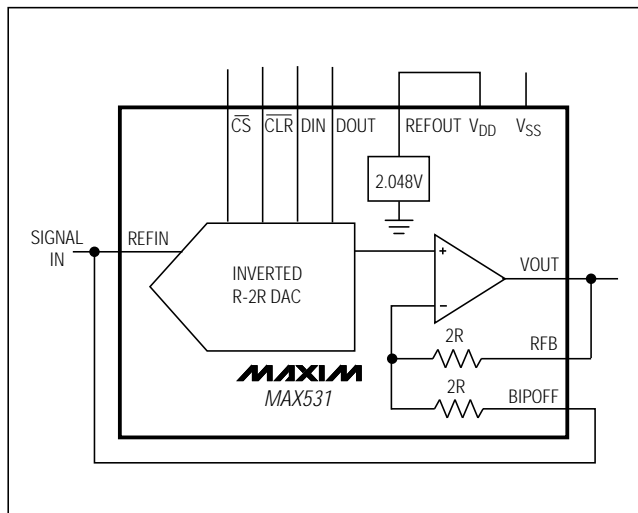

Figure 9. MAX531 Connected as Four-Quadrant Multiplier. The unused REFOUT is connected to V_{DD} .
The MAX531 can be used as a four-quadrant multiplier by connecting BIPOFF to REF and RFB to VOUT, using (1) an offset binary digital code, (2) bipolar power supplies, using dual power supplies, and (3) a bipolar analog input at REF within the range $V_{\text{SS}} + 2\text{V}$ to $V_{\text{DD}} - 2\text{V}$, as shown in Figure 9.